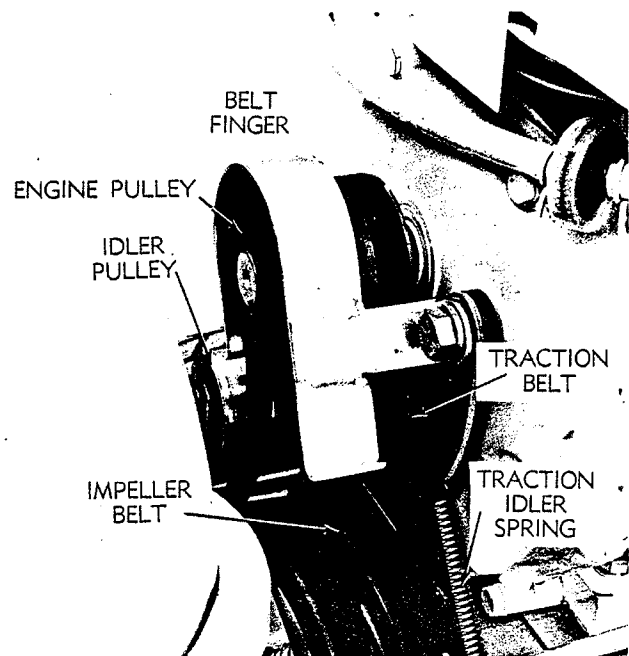

FIG. 10
- Remove spring from traction idler. (Fig. 10).